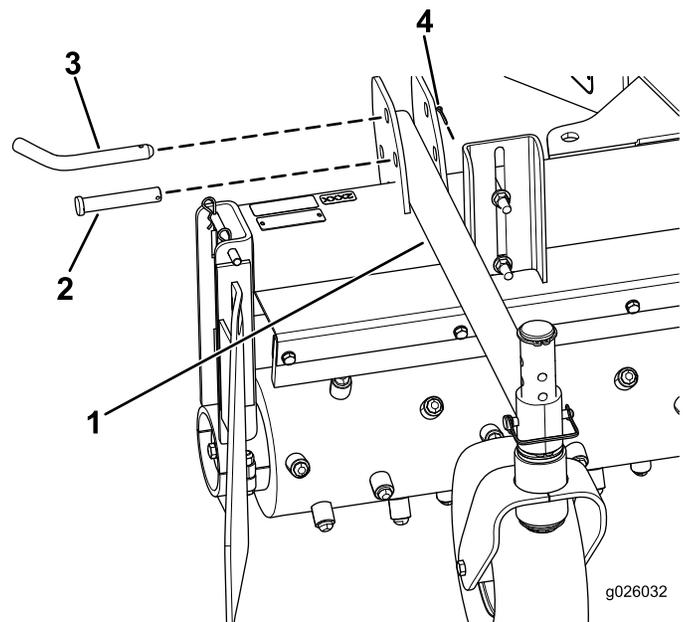

Figure 4
2. Secure the caster arms in place with the hitch pins (5/8 x 3 inches), clevis pins (5/8 x 3.5 inches), and the hairpin cotters (0.094 x 1 inch) as shown in Figure 4.